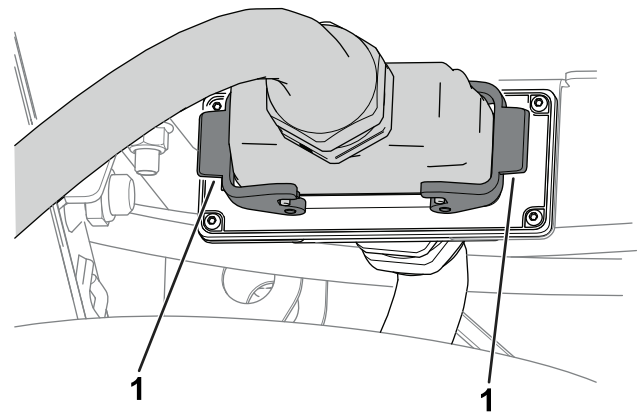

Figure 5
7. Use the machine-connector latches to secure the connection (Figure 5).